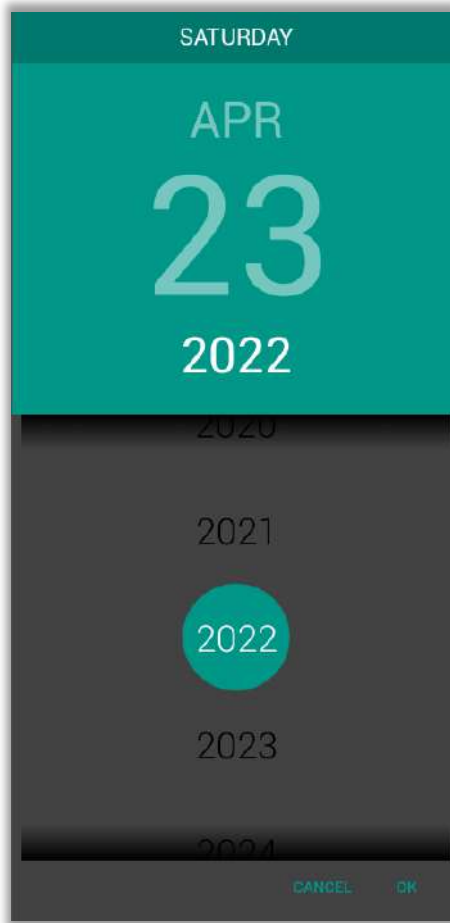

Fig. 59 : Calendar's Year Window
- 3 Press this touch button for the year to be set. The year list appears in the grey part of the calendar (Fig. 59). The selected day is displayed on this touch button.